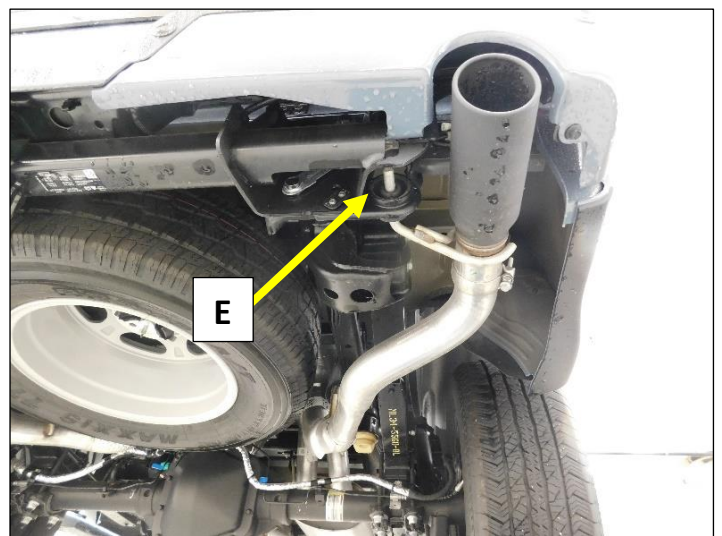

Figure 9
7. Install the tailpipe extension hanger on to the rear tailpipe hanger rod (**E**). Align the bolt holes and mounting stud plate and install the M6 nuts. **Fig.9**